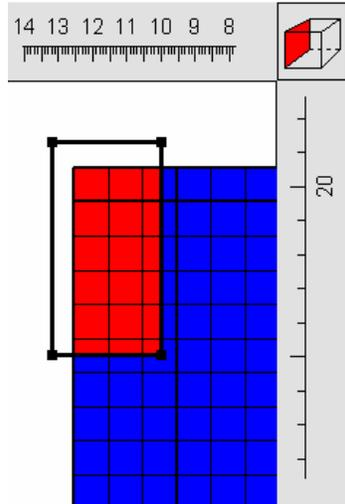

Figure 44. Location of the specified concentration boundary. The grid has been colored by the specified head solution.
18. The next step is to create a specified concentration boundary on the left end of the model. On the side view of the model, draw another polygon. This should enclose only part of the grid. It should extend from approximately $(Y, Z) = (15, 10)$ to $(21, 13)$ (fig. 44). In the **Object**
Properties dialog box, select the **Nodes** radio button. Set its name to “Specified_Concentration_Boundary.” Check the **Set values of enclosed nodes** checkbox. Set **Associated third dimension formulas** to **One**. Leave the **X-coordinate** set to 0. On the **Boundary Conditions** tab, select a **Specified head** boundary. Change the type of solution to **Specified solution**. In the table enter a value of 1 for **Head** and 2 for **Specified solution**. Click **OK** to close the dialog box. Now color the grid with the **Specified_Head_Solution** (fig. 44). The left end of the model should be specified head cells. The cells with a specified head solution of 1 will be colored red and those with a specified head solution of 0 will be colored blue.